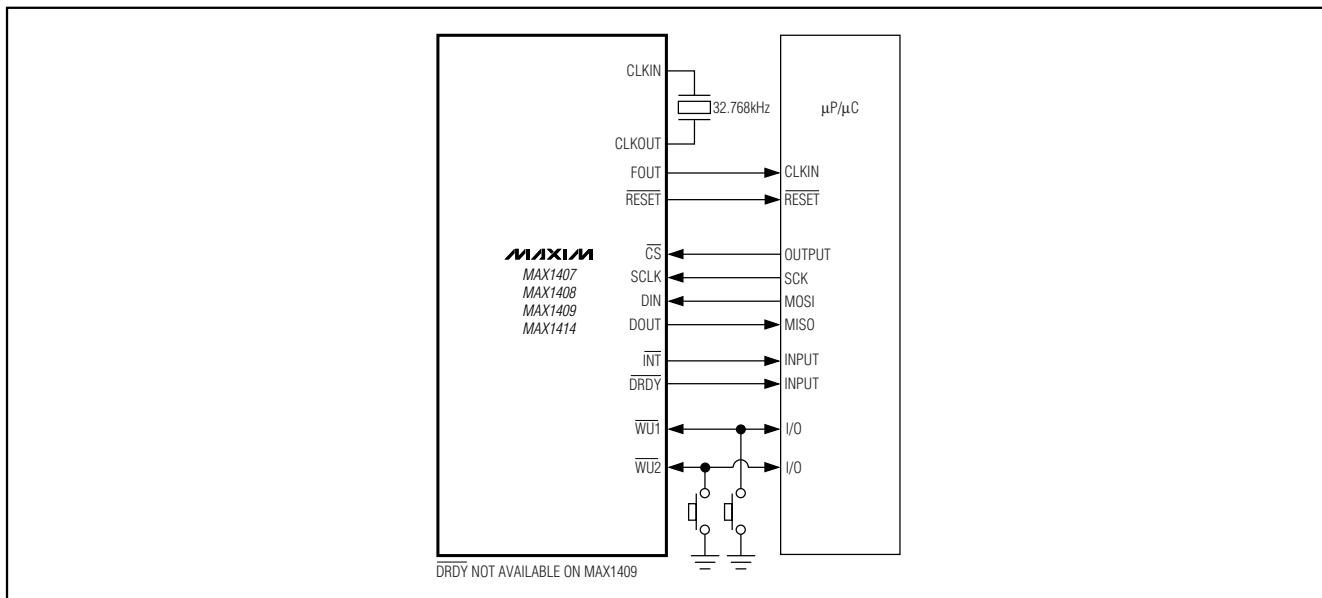

Figure 9. SPI/QSPI Interface Connections
The SPI/QSPI/MICROWIRE-serial interface consists of chip select (CS), serial clock (SCLK), data in (DIN), and data out (DOUT) (See Figure 9). The serial interface provides access to 29 on-chip registers, allowing control to all the power modes and functional blocks, including the ADCs, DACs, and RTC. Table 2 lists the address and read/write accessibility of all the registers.